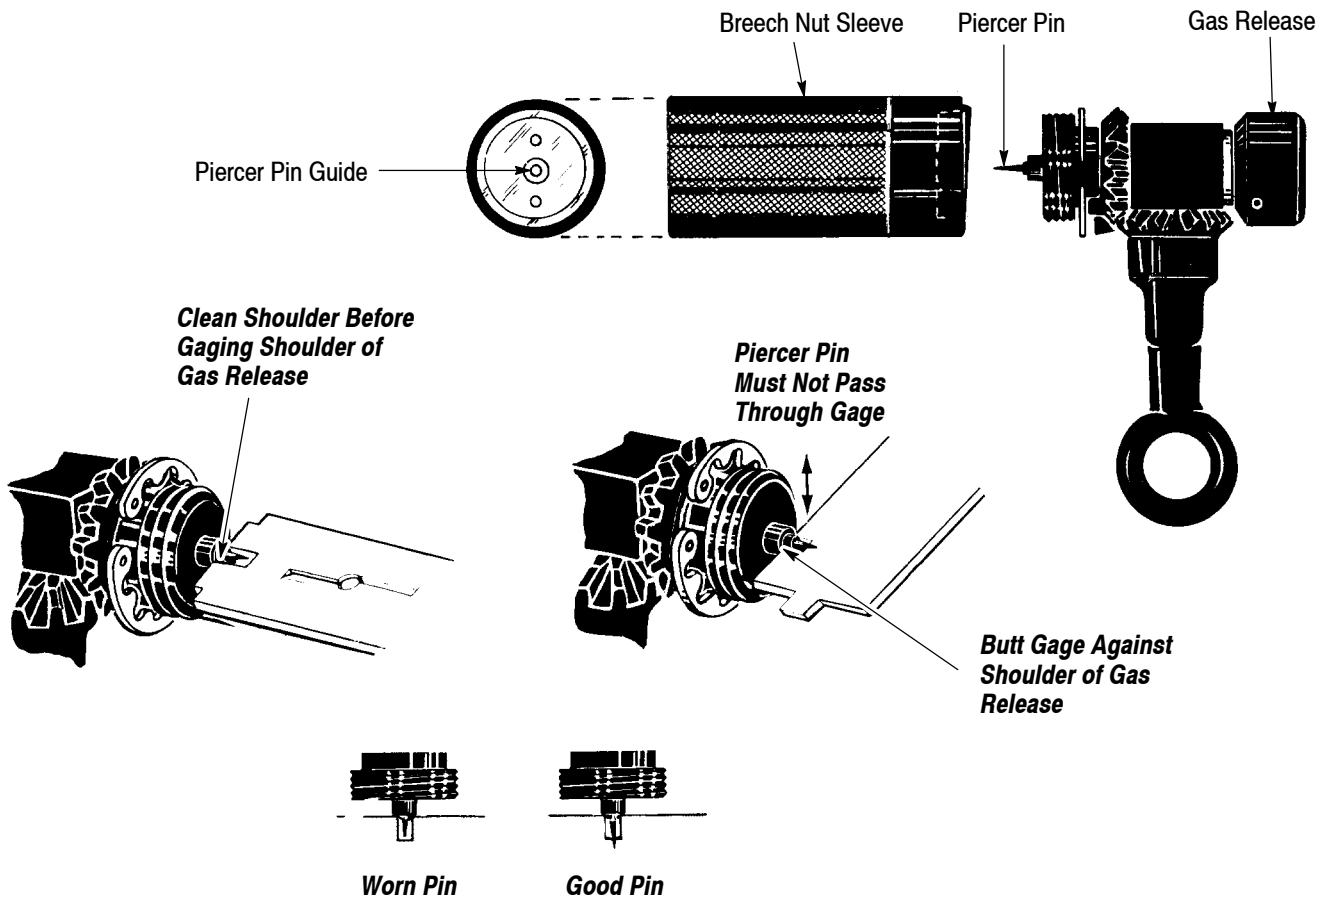

Figure 40
- b. Clean shoulder of piercer pin and use gage portion of cleaning tool to check length of piercer pin, as shown in Figure 40. If pin passes through the slot in the gage, the geared breech cap assembly must be returned to the factory for repair or replacement, as described in Section 8, RETURN OR REPLACEMENT.